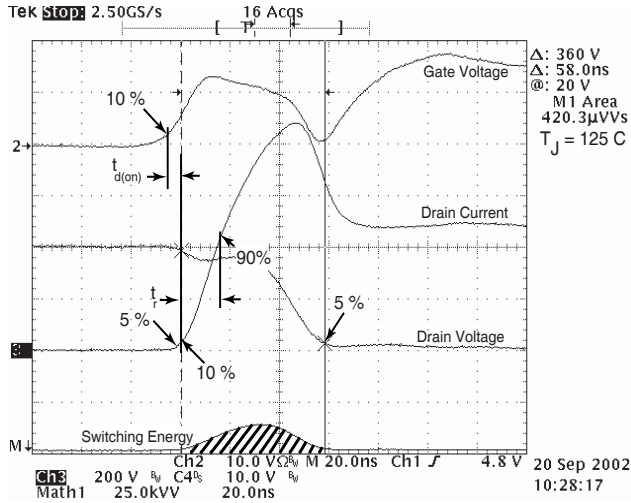

Figure 18, Turn-on Switching Waveforms and Definitions
③ See MIL-STD-750 Method 3471
④ Starting  $T_j = +25^\circ C$ ,  $L = 4.51mH$ ,  $R_G = 25\Omega$ , Peak  $I_L = 24A$
⑤  $dv/dt$  numbers reflect the limitations of the test circuit rather than the device itself.  $I_S \leq -I_{D24A}$   $di/dt \leq 700A/\mu s$   $V_R \leq V_{DSS}$   $T_j \leq 150^\circ C$
⑥  $E_{on}$  includes diode reverse recovery. See figures 18, 20.